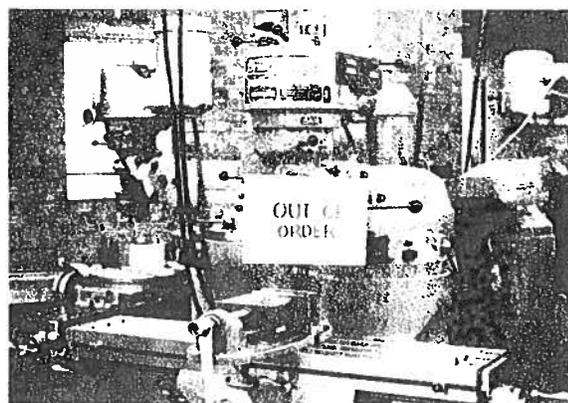

Fig. 3-8 Mark out-of-order equipment with a blue sign.
9. Disconnect out-of-order equipment and identify it with a blue sign (Fig. 3-8) as recommended by the National Safety Council.